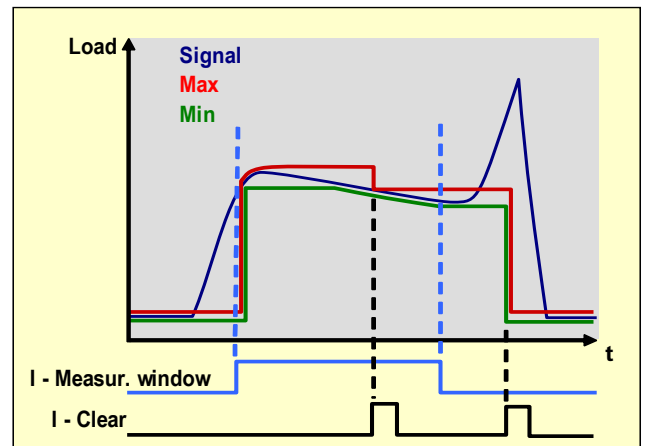

Fig. 13
- through an input assigned to a 'measurement window' (Fig. 13)